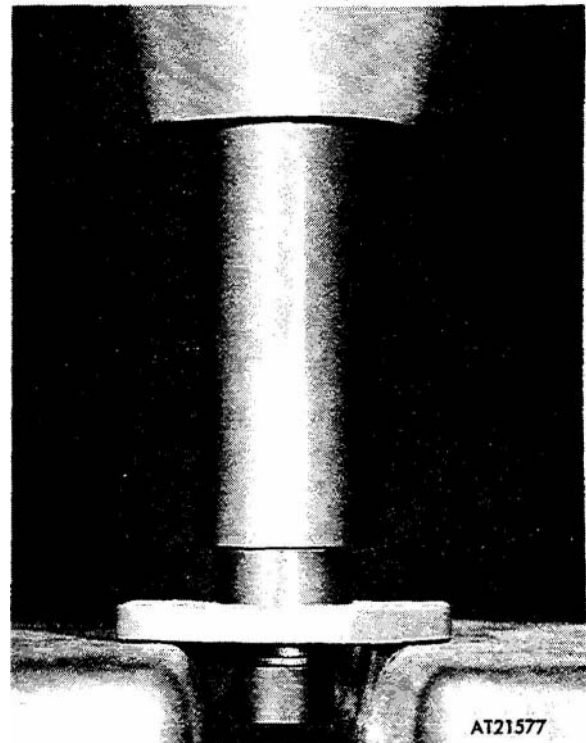

Figure 3-204. Pressing seal into cover.
(3) Press seal (16) into cover (15) as shown in figure 3-204. Secure cover (15, fig 3-195) and shms (14) to housing (18) with screws (17). Tighten screws to 18-22 lbs-ft. torque.
(5) Press seal (2) into cover (3) as shown in figure 3-204. Position cover (3, fig 3-212) and shims (4) to housing (20) and secure with screw (1). Tighten screws to 18-22 lbs-ft. torque.